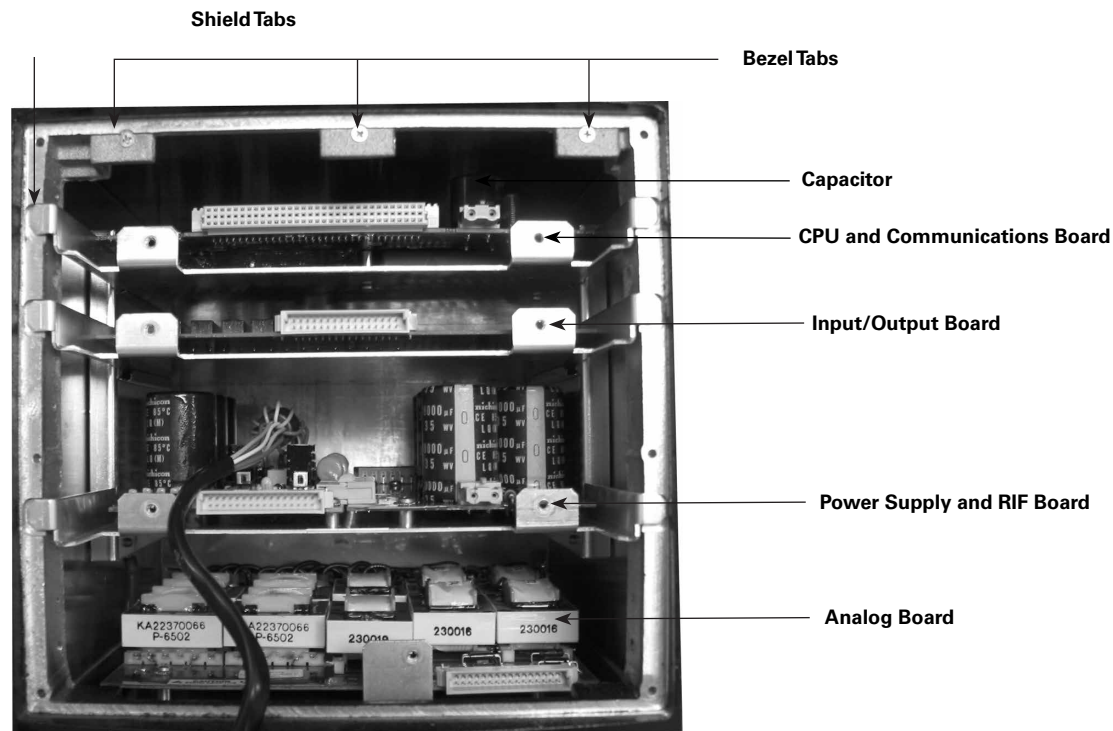

Figure 5. Internal view of the Form 6 pole mount recloser control module.
5. If a new back plate is included with the kit, unscrew the six back plate screws using a Phillips-head screwdriver and replace the back plate (Figure 5).